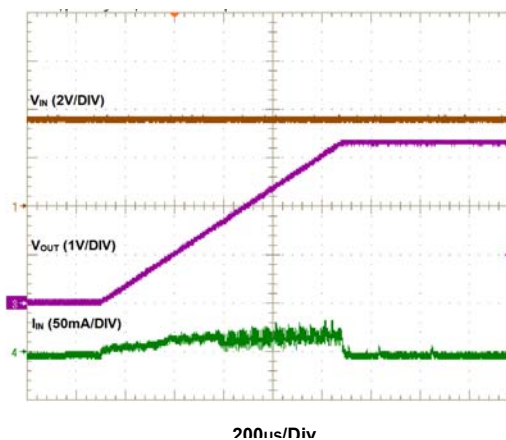

Figure 3. ISL9122A Start-Up with  $V_{IN} = 3.6V$  and  $V_{OUT} = 3.3V$
For both evaluation boards, the default output voltage is set at 3.3V. Use the following procedures to configure and power-up the board for proper operation. During the power-on process, the expected waveforms are shown in Figure 3.
6. Monitor the output voltage start-up sequence on the scope. The waveforms should look similar to those shown in Figure 3.